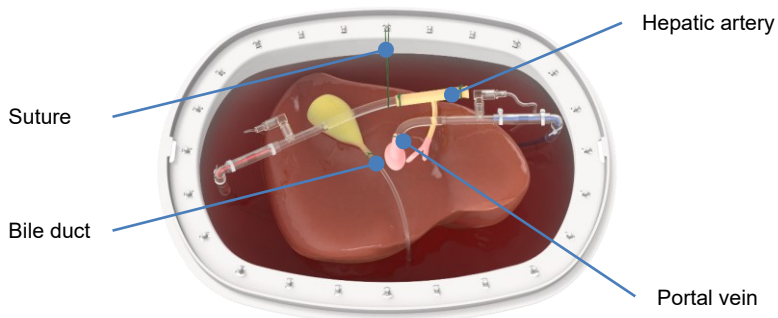

Figure 27 Cannulation hepatic artery and portal vein
- To connect the donor liver to the Liver Assist Perfusion Set [REF 11.401], cannulation of the portal vein and hepatic artery is needed (Figure 27)
- A suture can be attached to the rim of the reservoir and the cannula's, to ensure correct positioning of the cannula's and to achieve optimal perfusion (Figure 27).